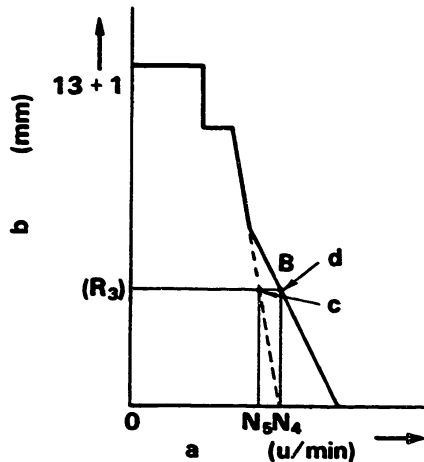

Fig. 113
- 7) Gradually reduce the pump speed and make sure that the control rack moves smoothly and finally reaches the position "13 - 14 mm" (refer to Fig. 113).